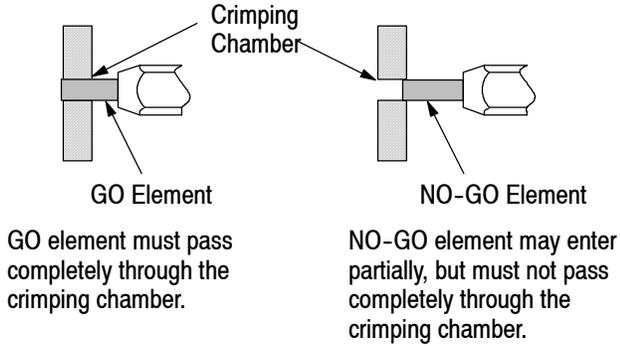

Figure 4
3. Insert the GO element into the crimping chamber; but do not force it. The GO element must pass through the length of the crimping chamber. See Figure 4.